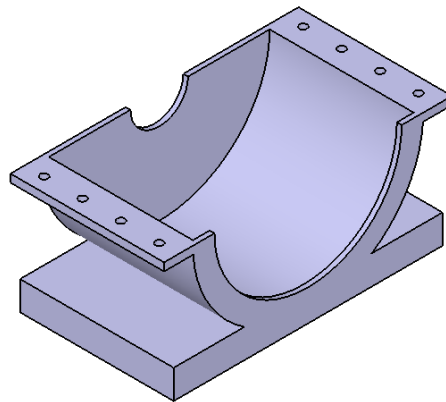

Figure 11-66 Lower Housing after modifying its orientation
4. Click anywhere in the geometry area to exit the **Snap** tool. Set the orientation of the view of the assembly to Isometric. The Lower Housing is placed in the correct orientation, as shown in Figure 11-66.